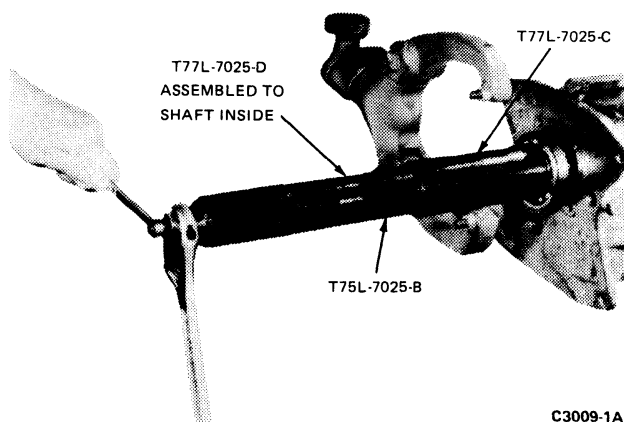

FIG. 15 Installing Input Shaft Bearing
32. Position the input shaft bearing on the input shaft along with the Clamp, Tool T77L-7025-D or equivalent the Sleeve Tool T75L-7025-K or equivalent and the bearing Replacer Tube, T77L-7025-C or equivalent. Press the bearing onto the shaft and into the transmission case as shown in Fig. 15.